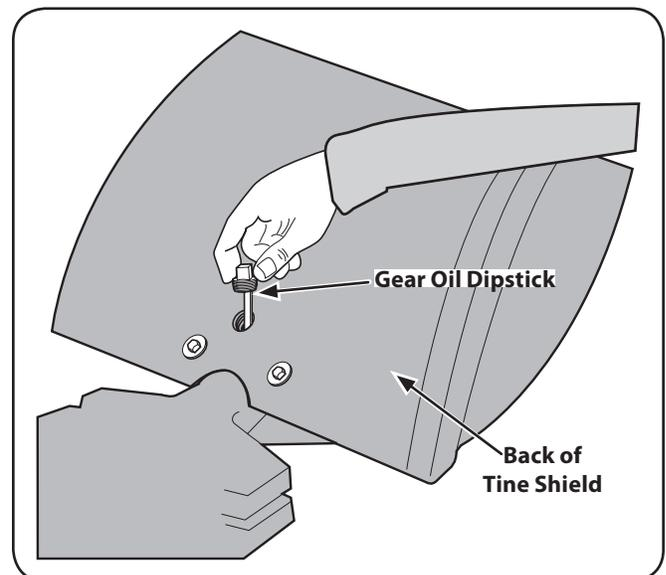

**Figure 6-6**
4. Use a  $\frac{3}{8}$ " wrench to remove the oil level check plug on the left side of the transmission housing. See Fig. 6-6.
2. Remove dipstick from tine attachment. See Fig. 6-6.